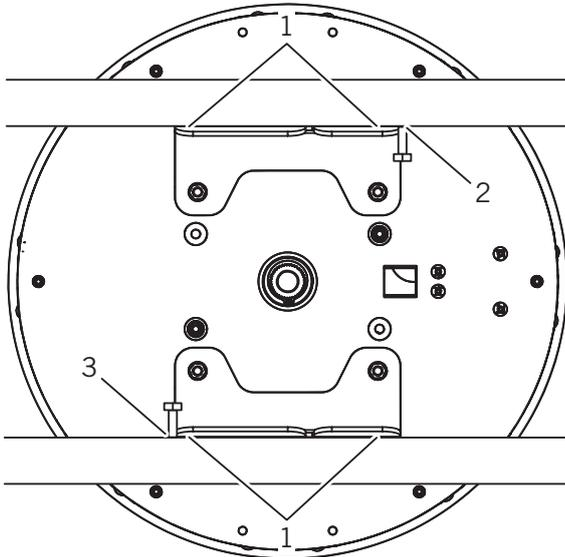

Fig. 75 Fixing the angle bracket
19. Once aligned, secure the operator (Fig. 75) to prevent movement.
To do so insert two sliding blocks in the grooves of the ceiling structure next to the angle brackets (Fig. 75/1) and fix with a screw (Fig. 75/2 + 3).
Tighten the mounting screw of the operator (Fig. 75/1). Observe the screw tightening torques.